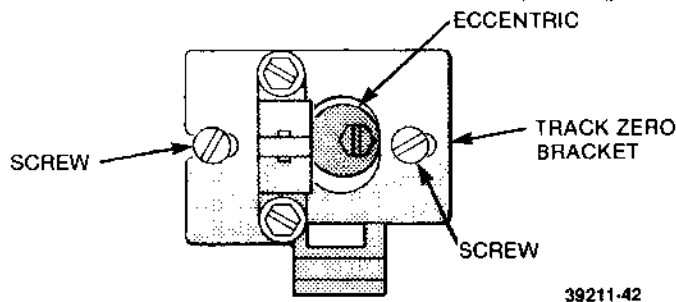

FIGURE 6-5. TRACK ZERO ADJUSTMENT
- m. Adjust eccentric until a 50% duty cycle is obtained (see figure 6-5).